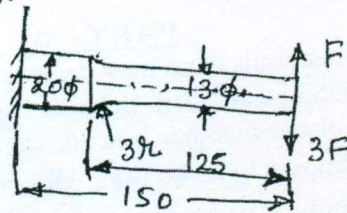

Fig. Q3 (b)
- b. A cantilever beam made of carbon steel of circular cross section shown in Fig. Q3 (b) is subjected to a load which varies from (-F) to (+3F). Determine the maximum load that this member can withstand for an infinite life using factor of safety '2'. Theoretical stress concentration factor of $K_t = 1.42$ and notch sensitivity of 0.9 may be used, with following stresses. (i) Ultimate strength $\sigma_u = 550$ MPa, Yield strength $\sigma_y = 470$ MPa. Assume endurance strength as 0.5 times ultimate strength (σ_u) and other correction factors for endurance strength suitably. (14 Marks)